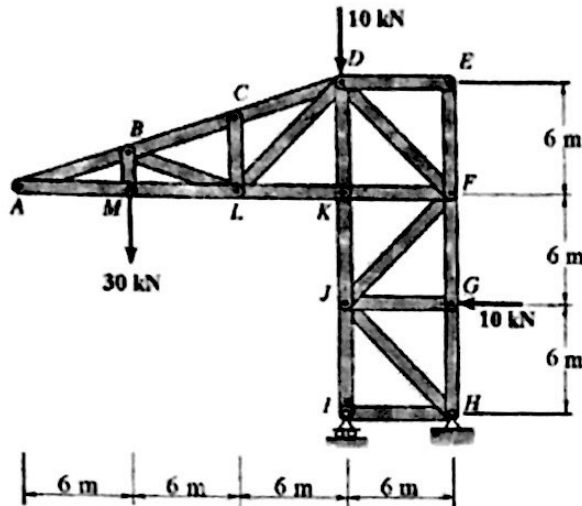

Fig. 7 Schematic Diagram of Prob. # 7
7. Consider the loaded truss structure, as shown in Figure 7, which is supported by a pin at joint **H** and a roller at joint **I**. (15 Marks)